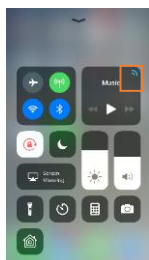

Figure 14
1. Open the Control Center (Figure 14).